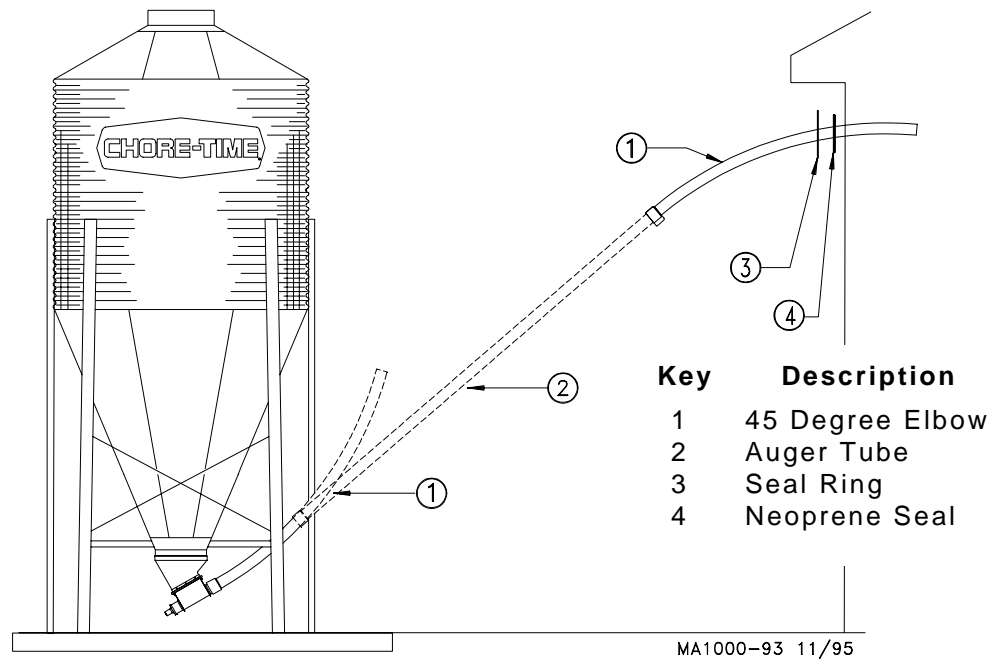

Figure 3. Bin to building elbow and tube layout diagram. (Side View)
2. Cut the elbow used where the auger enters the building (if necessary). Slide the seal ring and neoprene seal over the straight end of the elbow and place it in the hole cut in the building, with the belled end outside the building. See Figure 3.